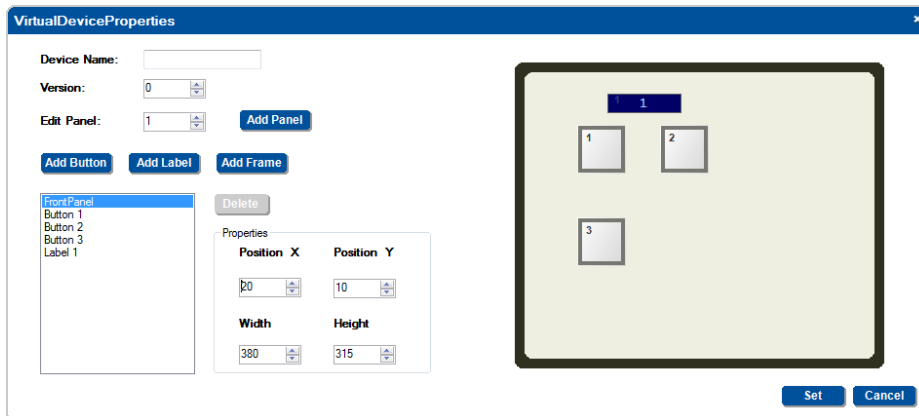

Figure 96: Editing the Virtual Device Appearance (Step 1)
1. In the **Virtual Device Properties** window, delete buttons 4, 5 and 6, frame 1 and frame 2, and Label 2, as illustrated in Figure 96: